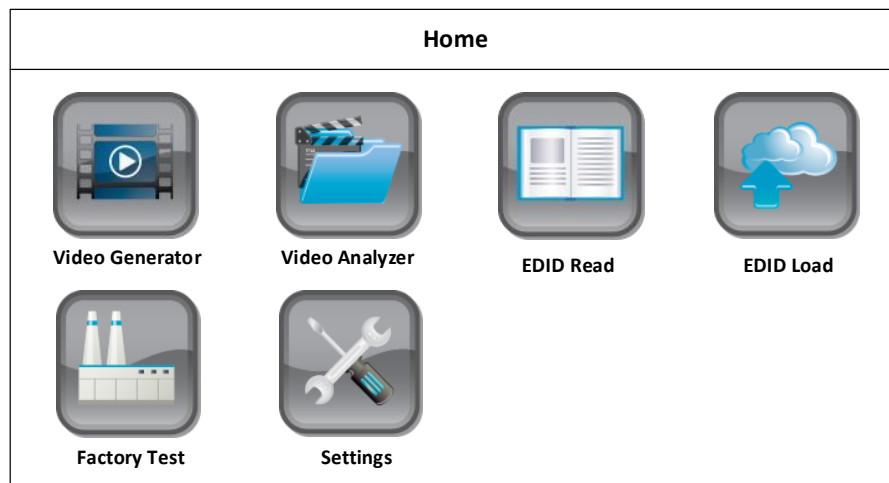

Figure 1.5. LCD Touch Screen Main Window
Figure 1.5 shows the LCD touch screen of the SL-881 in standard test mode under default factory configuration.
- On the LCD touch screen (Figure 1.5), choose Video Generator. The Video Generator window appears (Figure 2.5).